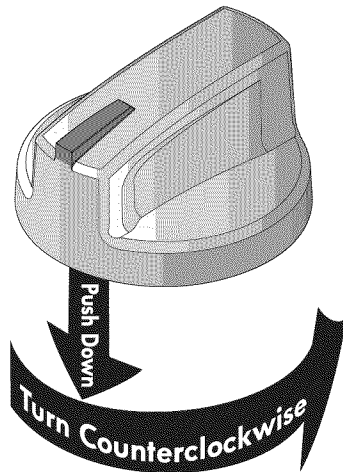

Figure 2
2. Push the surface control knob in and turn **counterclockwise** out of the OFF position (Fig. 2 & 3).